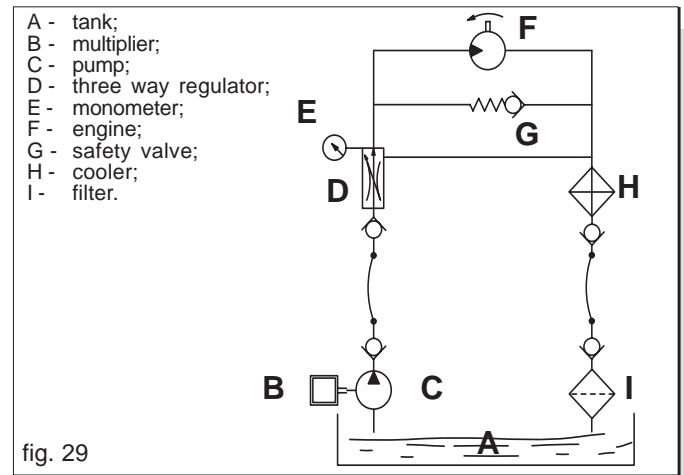

fig. 29
- Oil supply: follow the data in the table in Fig. 29.